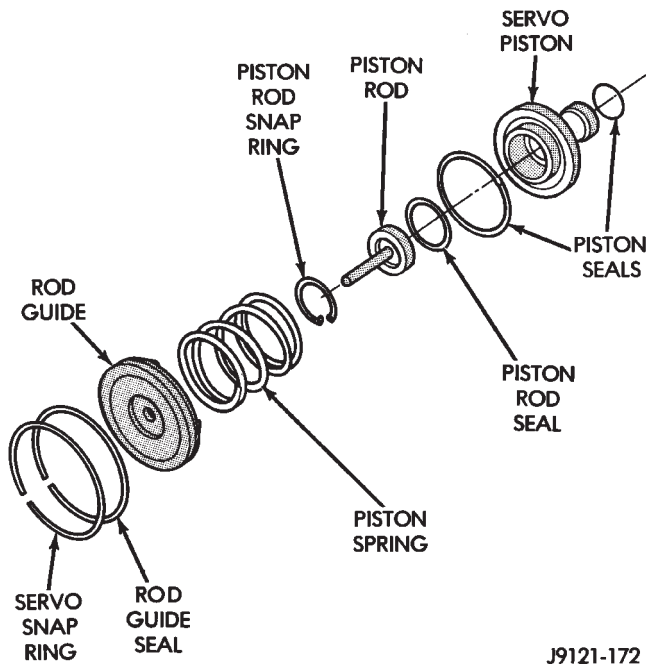

Fig. 101 Front Servo Components
FRONT SERVO DISASSEMBLY (FIG. 101)
- (1) Lubricate servo parts with transmission fluid.
- (2) Install new O-ring on servo piston rod.
- (3) Install new seal on piston rod guide and install new seal rings on piston.
- (4) Assemble rod, piston, servo springs and snap ring (Fig. 101).